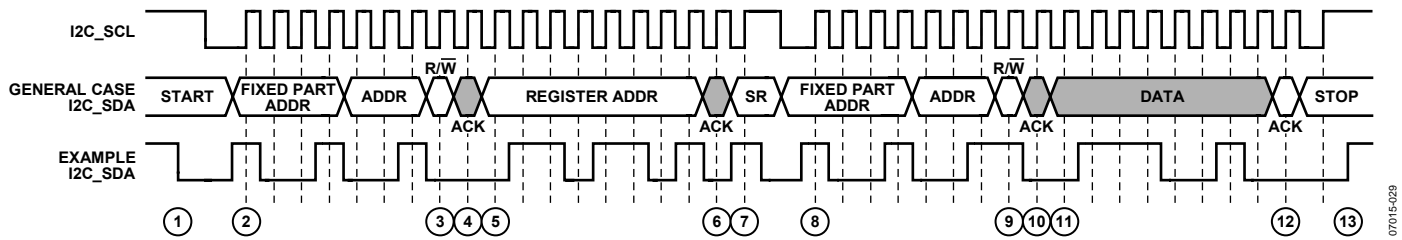

Figure 30. I²C Read Diagram
To read data from the AD8197B register set, an I²C master (such as a microcontroller) needs to send the appropriate control signals to the AD8197B slave device. The signals are controlled by the I²C master, unless otherwise specified. For a diagram of the procedure, see Figure 30. The steps for a read procedure are as follows:
9. Send the read indicator bit (1).
- 13a. Send a stop condition (while holding the I2C\_SCL line high, pull the SDA line high) and release control of the bus to end the transaction (shown in Figure 30).